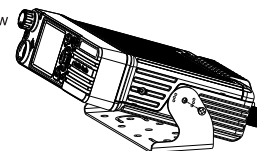
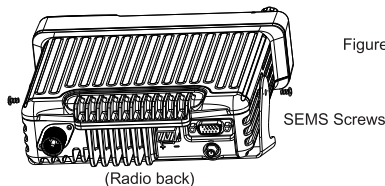

Figure 2
Figure 3
Use the 2 screw positions on the side of the mounting bracket to determine the appropriate angle of the transceiver. (Figure 2) Position the transceiver, then insert and tighten the supplied hexagon SEMS screws (4) and flat washers (4). (Figure 3) Double check that all hardware is securely fastened to ensure that vehicle vibration will not loosen the bracket or transceiver